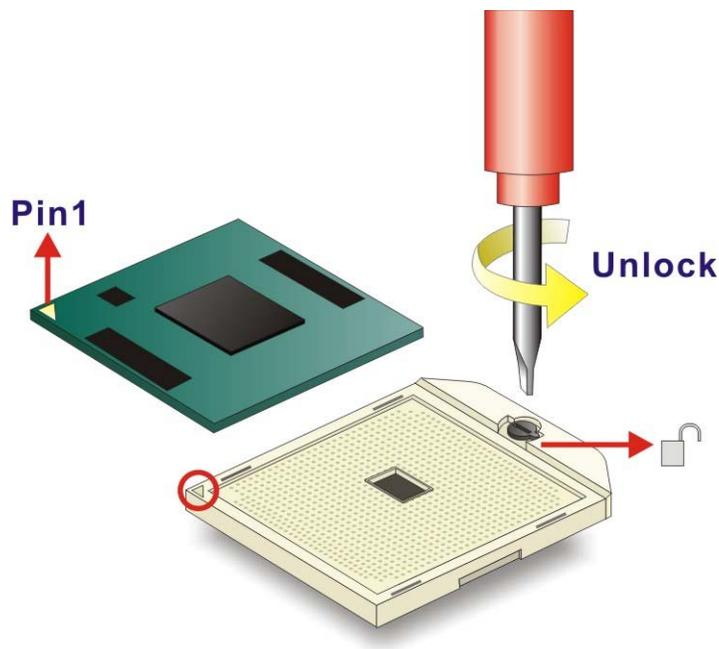

Figure 4-1: Unlocked Retention Screw
See **Figure 4-1**.
- Step 4:** Correctly position the CPU. Match the Pin 1 mark on the CPU with the marked corner on the CPU socket. See **Figure 4-1**.